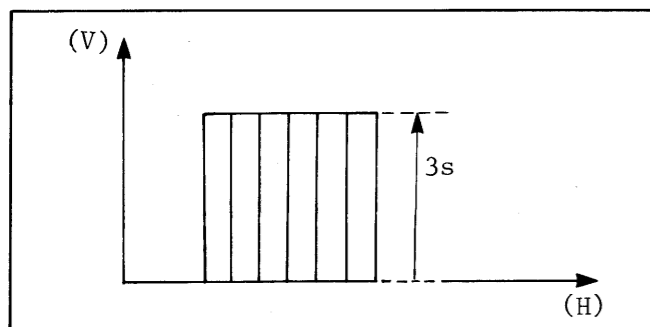

Fig. 39
- (4) Reconnect oscilloscope to TP7. Reset oscilloscope time base to 50µs/cm.
- (5) Holding down any key will display six growing waves on oscilloscope; CH1 being at leftmost position. Align rise time of remaining waves to CH1 rise time (coincidental max. to 0 transitions is desired.) (Fig. 39)